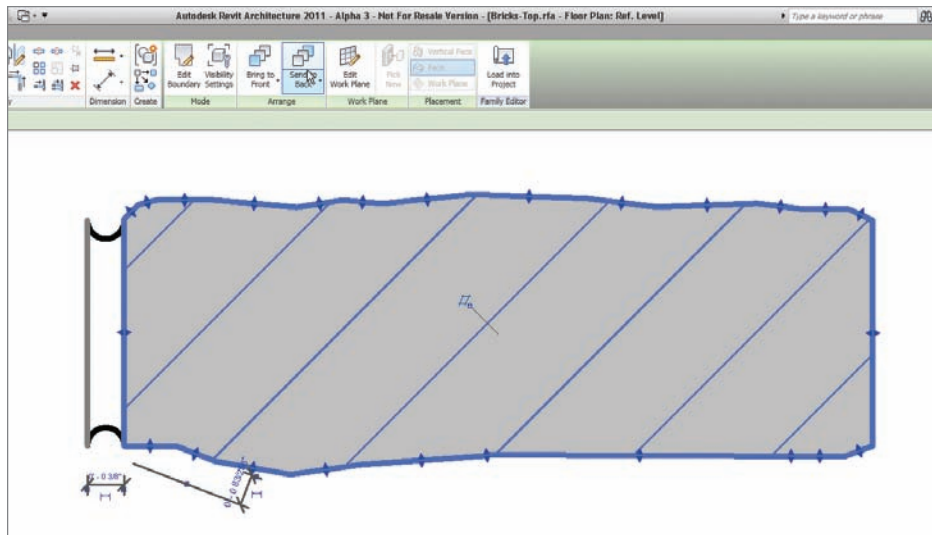

FIGURE 12.29 Sending the light shade to the back
16. On the Arrange panel, click the Send To Back button, as shown near the top of Figure 12.29.